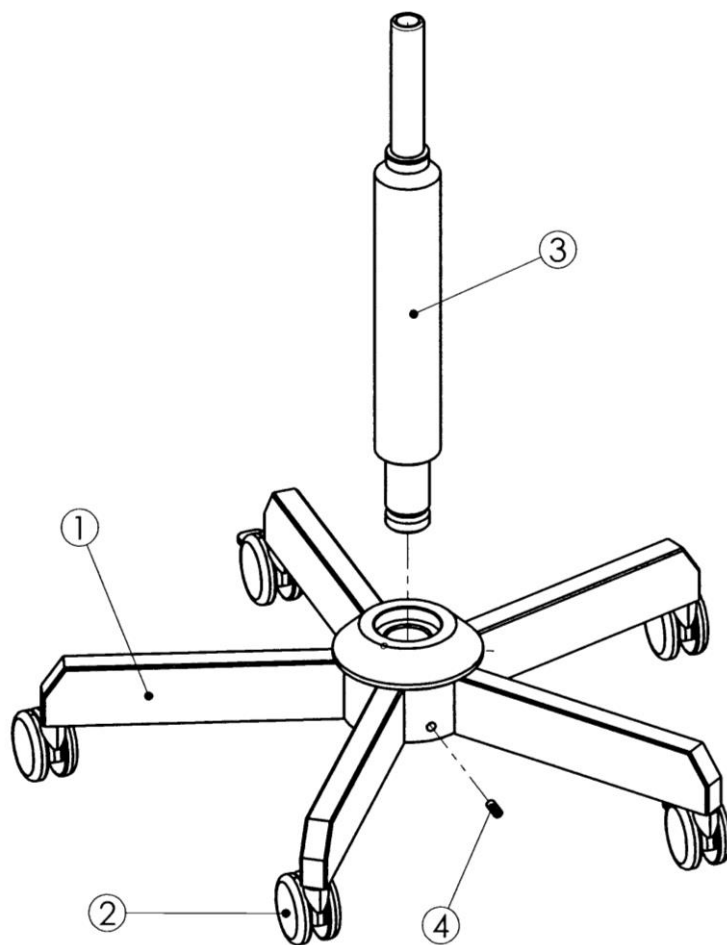

Figure 1
Carry out the following installation steps as in Figure 1
- 5 rollers to move the appliance, see Figure 1 (two brakes to lock the appliance)
- Star knob (1) for determining the swivel arm position
- Main switch (11)
- Potentiometer (8) for regulation of lighting
- Star knob (3) for determining the height movement for the suspension arm
- Star knob (5) for rotation protection of the microscope head
- Knurled screw (6) for exchanging the binocular lens tube
- Knob (9) for adjusting the magnification changer
- Locking pin (4) to protect the microscope head from falling out during installation
- Star knob (2) for determining the rotation movement for the suspension arm
- Nameplate (10)